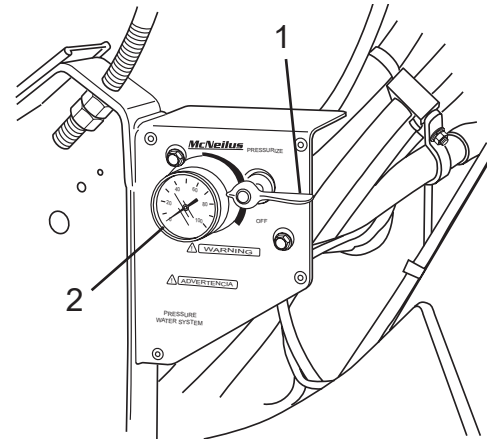

Figure 100
1. Turn air pressure control valve to EXHAUST position (Figure 100, Item 1). Make sure the gauge (Figure 100, Item 2) reads 0 PSI (0 kPa).